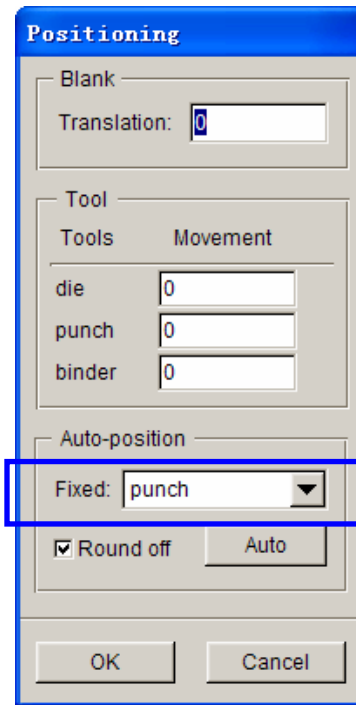

Figure 90: Positioning dialog box
1. Click **Positioning...** button located at the lower right corner of tools interface to display the **Positioning** dialog box illustrated in Figure 90. Alternatively, you may select **Tools->Positioning...** on the menu bar to display the dialog box.